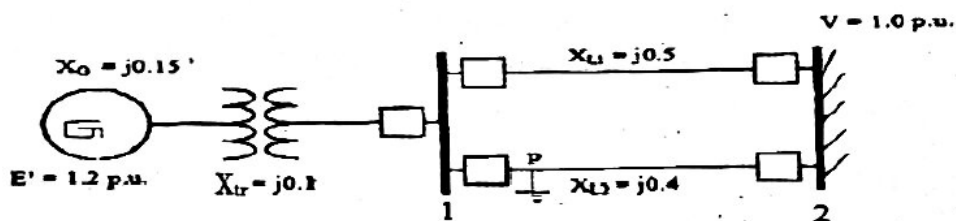

Fig. 15(b)
- (b) Find the critical clearing angle and time for clearing the fault with simultaneous opening of the breakers when a three phase fault occurs at point P close to bus 1 as shown in Fig. 15(b). The generator is delivering 1.0 pu. power at the instant preceding the fault.